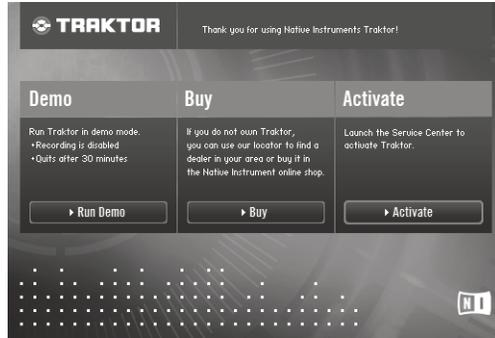

Figure 4.42
1. To activate Traktor, click **Activate**. (Figure 4.42)